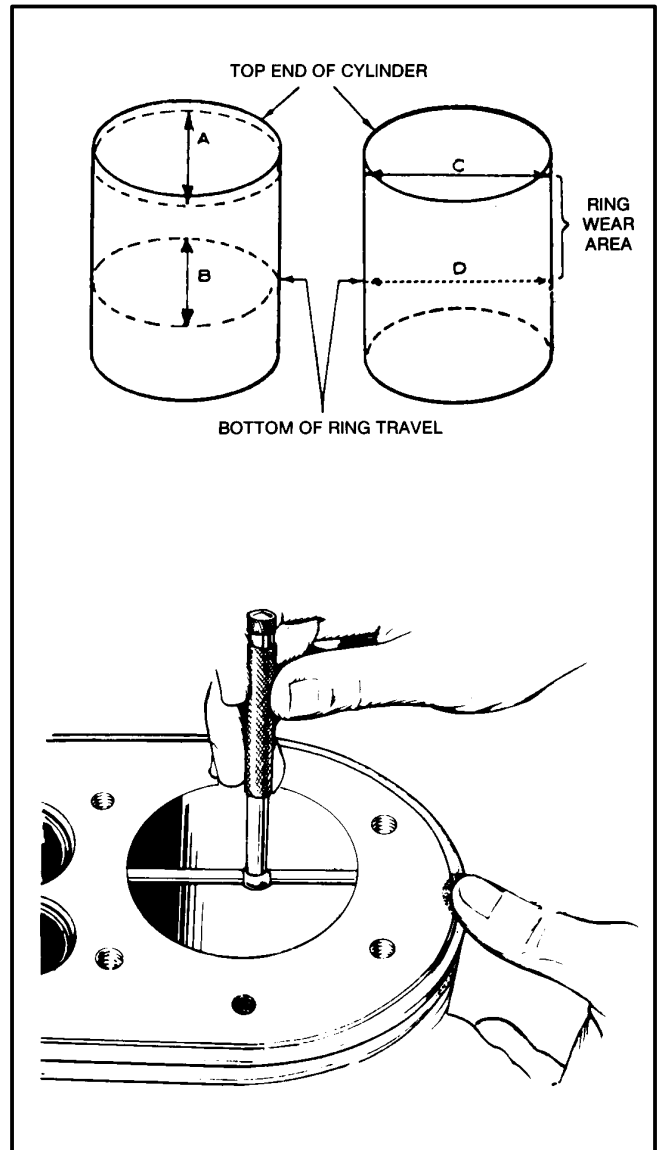

FIGURE 10-19. METHODS OF MEASURING THE DIAMETER OF A CYLINDER BORE
1. Check cylinder bore for taper, out-of-round, and wear with a cylinder bore gauge, telescopic gauge, or inside micrometer. These measurements should be taken at four places: top and bottom of piston ring travel; parallel and perpendicular to axis of crankshaft (see Figure 10-19).